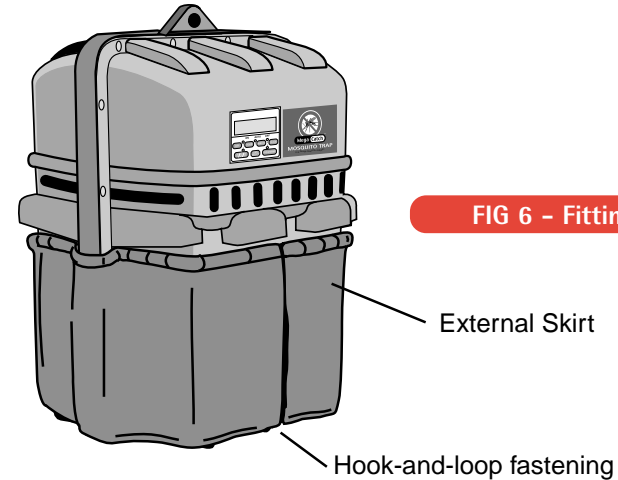

FIG 6 - Fitting External Skirt
3. The Skirt is properly fitted when the elastic band is seated over the lower horizontal rib, just below the inlet holes (see figure 6). The opening in the Skirt should be located at the front of the Trap so as to facilitate removal of the Door without having to remove the Skirt. The hook-and-loop fastening on this opening should be closed when the Trap is running.